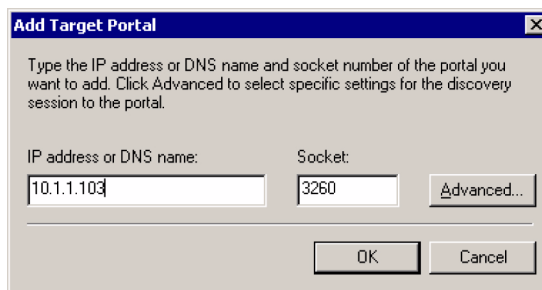

Figure 4-3
2. In the **Add Target Portal** window (Figure 4-3), enter the IP address of the iSCSI storage network portal in the **IP address or DNS name** field.